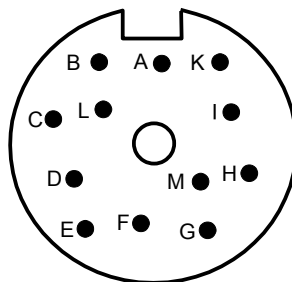

Fig. 3.2: pinning of output plug
- output plug (Pinning see Fig. 3.2)
Fig. 3.2 shows the plan view from the front of the 12 pole output plug.